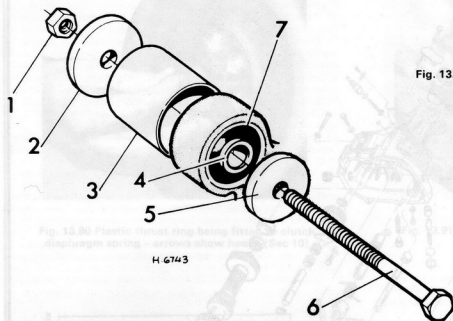

Fig. 13.96 Mounting bush removal (Sec 11)
- 17 Examine the rubber mounting bushes for deterioration. Renew any damaged bush. Should a bush seize in its housing, do not attempt to hammer the bush from position, but leave it to soak in releasing fluid for a time and then pull it out position with a tool made from a bolt, sleeve and washers as shown in Fig. 13.96.